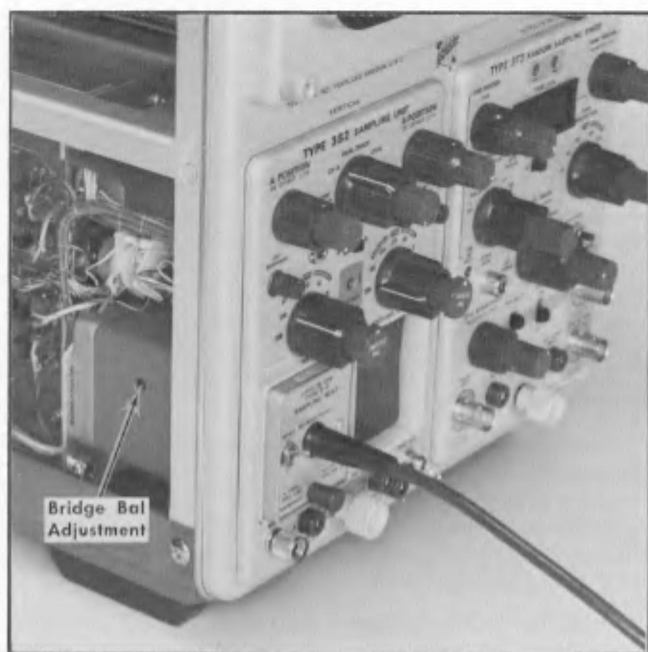

Fig. 2-7. Bridge Bal Location.
20. Switch the Type 3S2 Units/Div control from 200 to 20, adjusting the Type S-3 Bridge Bal control for the minimum trace shift. See Fig. 2-7 for the location of the Bridge Bal control. This adjustment must be made whenever the Type S-3 is shifted from one sampling unit to another, or operated on a sampling head extender cable.